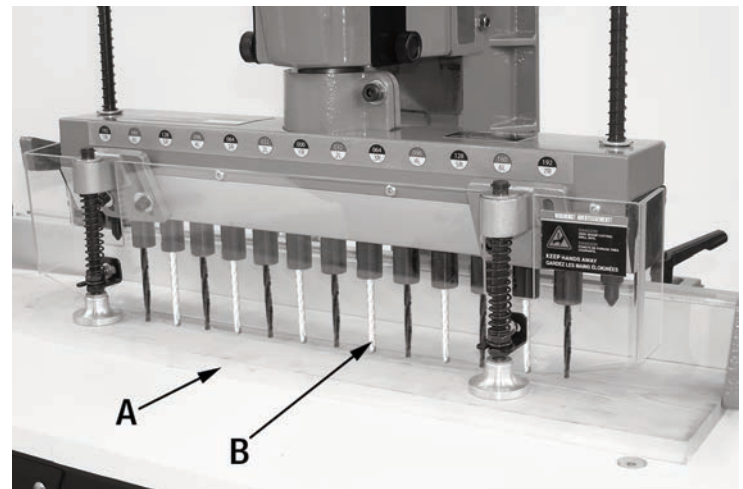

FIGURE 10
3. Place a flat piece of wood (A) Fig.10 that is long enough to cover all 13 boring bits onto the table, under the boring bits, up against the fence. Pull down on the feed handle until ANY of the 13 boring bits (B) come into contact with the workpiece. If all of the bits come in contact with the workpiece at the same time, no alignment is necessary.